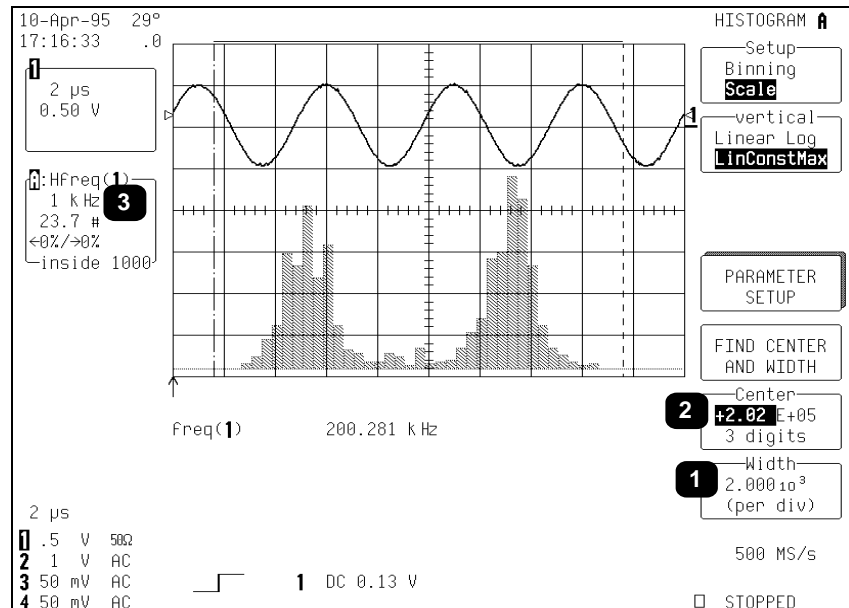

Figure 2.14
3. “**LinConstMax**” sets the vertical scaling to a linear value that uses close to the full vertical display capability of the scope (Fig. 2.14). The height of the histogram will remain almost constant.